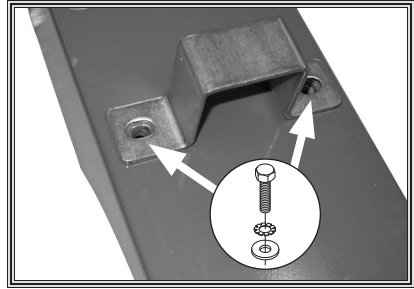

Figure 4. Securing mounting bracket (pole not shown for clarity).
2. Have an assistant hold the hoist in place, and thread the hex bolts, external tooth washers, and flat washers through each of the mounting brackets and into the top of the electric hoist (see Figure 4).